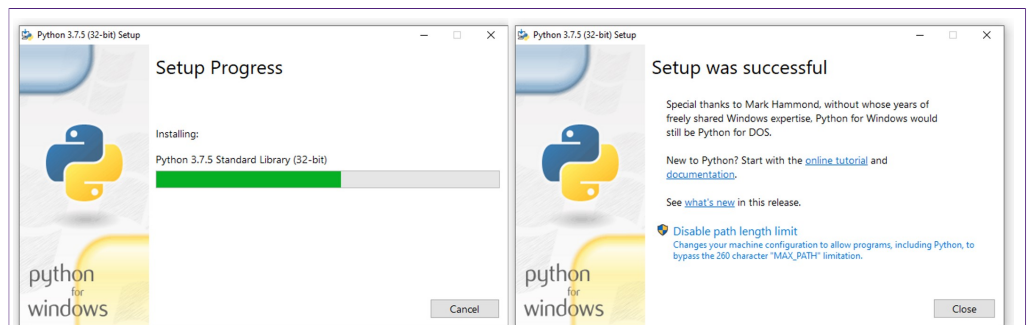

Figure 62. Python 3.5.x 32 bit installation completed
- 3. Wait a few seconds until the installation is completed as indicated in Figure 62